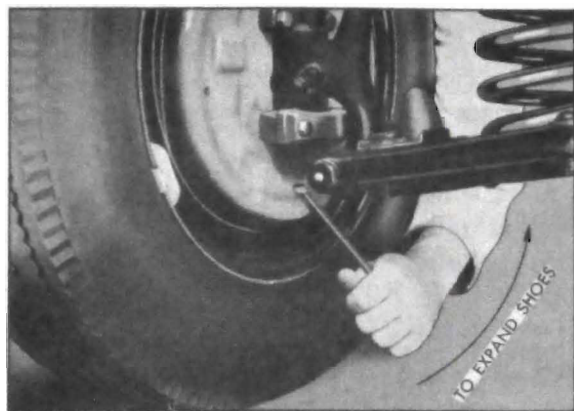

Figure 9-8—Expanding Brake Shoes
1. Remove adjusting hole covers from brake backing plates. Using suitable tool to turn brake adjusting screw, expand brake shoes at each wheel until the wheel can just be turned by hand. Moving outer end of tool upward toward center of wheel expands the shoes. See figure 9-8. The drag should be equal at all wheels.
(a) Using suitable tool (fig. 9-8) turn brake adjusting screw to expand brake shoes until drum can just be turned with a long bar, giving a drag equivalent to a two-hand drag with wheel installed.